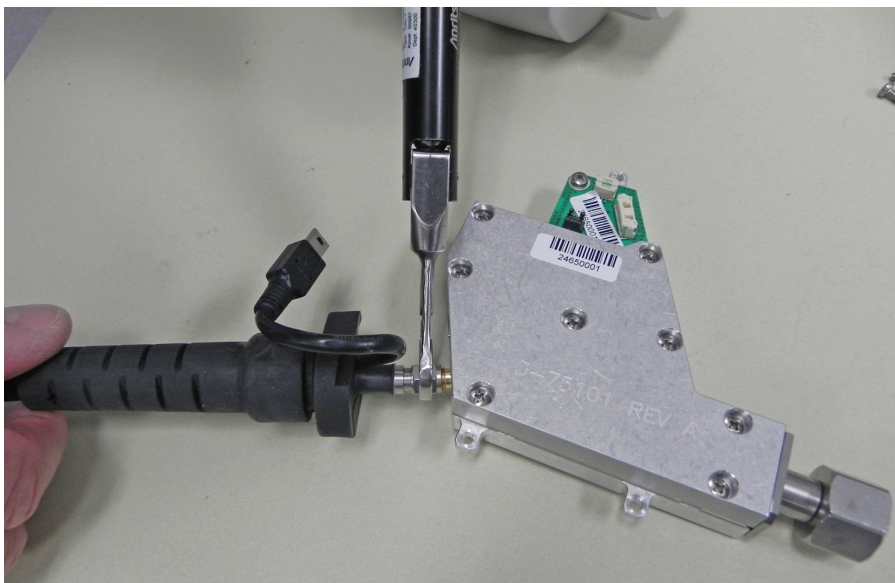

Figure 3-8. Remove the 4 screws on the Main PCB Assembly
6. With the Main PCB Assembly and main cable harness removed, you can now remove the SMA connector and Mini USB connector from the Main PCB assembly (Figure 3-8).